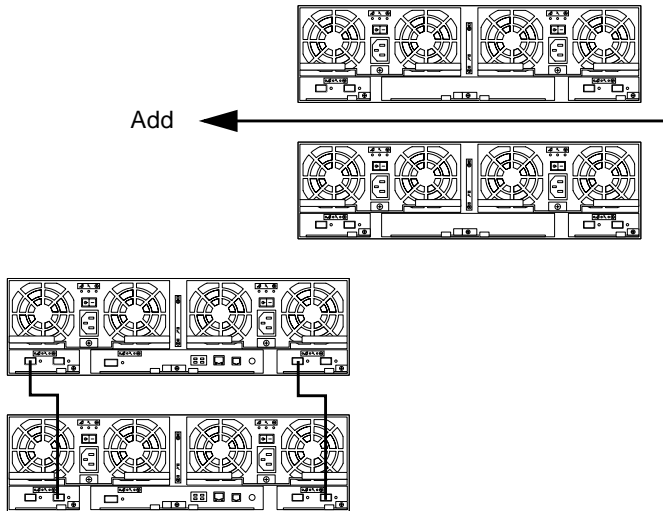

FIGURE 7-3 Expansion Units Added to a Rack Configuration
9. Add new expansion units to the top of the existing 2x2 storage array. (See FIGURE 7-3.)